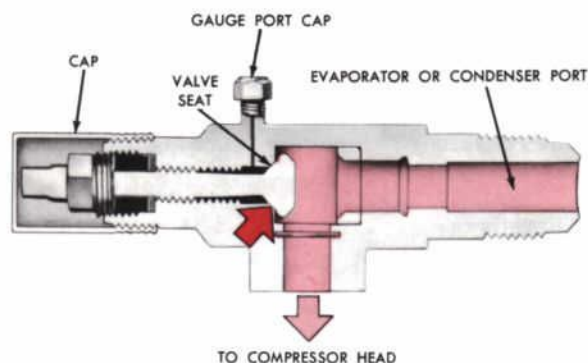

Figure 18—Back-Seated Service Valve
**Service Valves** are installed in the compressor head to make connections to the condenser and evaporator, and provide a place to charge the system with refrigerant and to connect pressure gauges. When the system is operating, the service valves should be *back-seated* (Fig. 18). When back-seated, the valves are screwed out to open the condenser or evaporator port to the compressor and to block the gauge port. Conversely, when the system is being serviced the valves are front-seated by screwing them inward to close the condenser or evaporator port to the compressor and to open the gauge port.